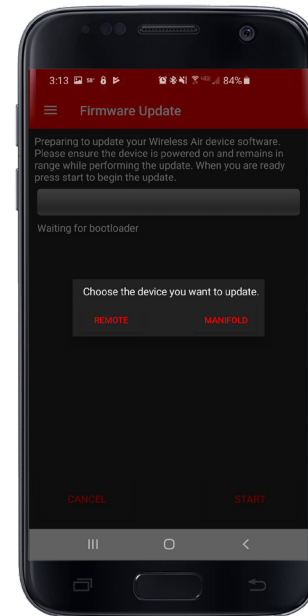

fig. F.4
2. The app must be connected to the manifold to change firmware on the manifold (Fig. F.4). The app must be connected to the wireless controller to change firmware on the wireless controller.